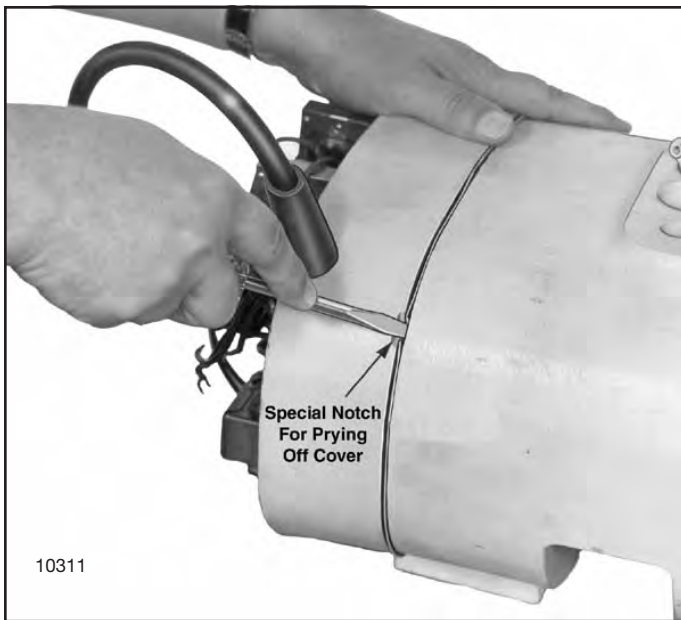

Figure 7-4. Prying Gear Case Cover from Hoist Frame
(3) Disconnect power supply flexible cable leads from terminals of contactor. Remove screw attaching ground leads to gear case cover and pull flexible cable and grommet from slot in cover.
(4) Disconnect motor leads from electrical control units. Number of leads depends on type of motor. (See wiring diagrams in accompanying this manual).
(5) Remove eight hex socket head screws and lockwashers securing gear case cover to hoist frame. Pry gear case cover off hoist frame using screw driver at special notches provided at opposite corners of cover (fig. 7-4). Discard gear case cover gasket.